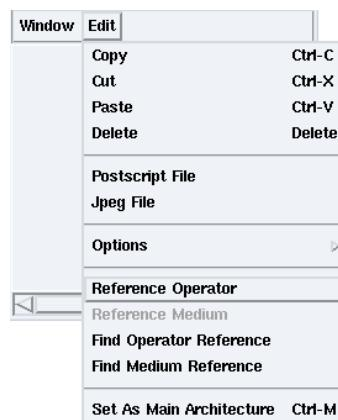

Figure 1.15: **Edit / Reference Operator**
- to create a reference to the operator `Uinout`, **Edit / Reference Operator** (*cf.* figure 1.15) → dialog window: click **user**, double click `Uinout` → dialog window: `u1`,